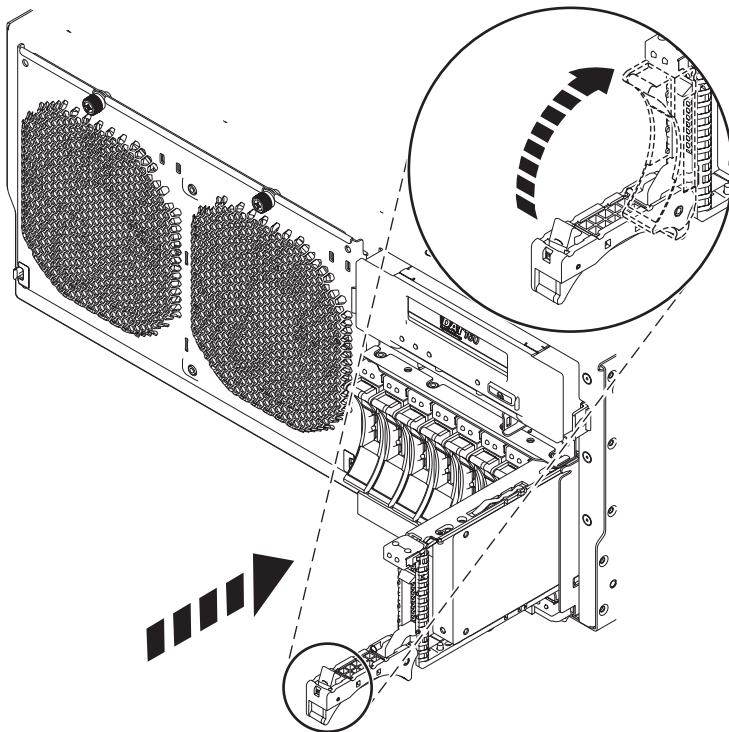

Figure 46. Replacing a disk drive in the system
7. When the identify LED flashes, slide the disk drive or solid-state drive all the way into the system or an expansion unit, and push the drive handle (A) in until it locks, as shown in Figure 46.